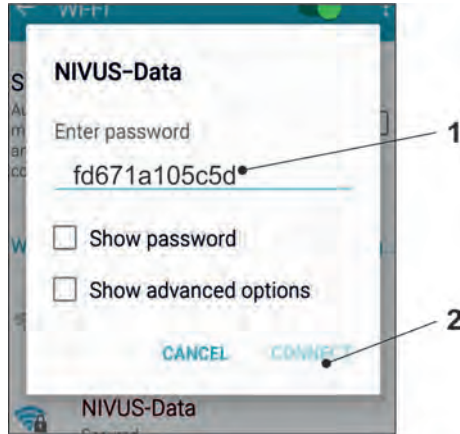

Fig. 31-5 Enter password (here fd671a105c5d as example) and connect
5. Enter the password for server access (delivery status = PUK) (Fig. 31-5 Pos. 1) and connect (Fig. 31-5 Pos. 2).